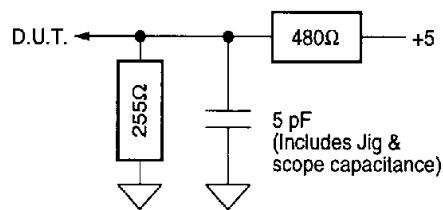

Figure 1b. Output Disable Timing Load
6. Transition is measured  $\pm 500$  mV from steady-state voltage with load of Figure 1B. This parameter is sampled rather than 100% tested. At any given voltage and temperature,  $t_{CHZ}$  max is less than  $t_{CLZ}$  min for a given device and from device to device.